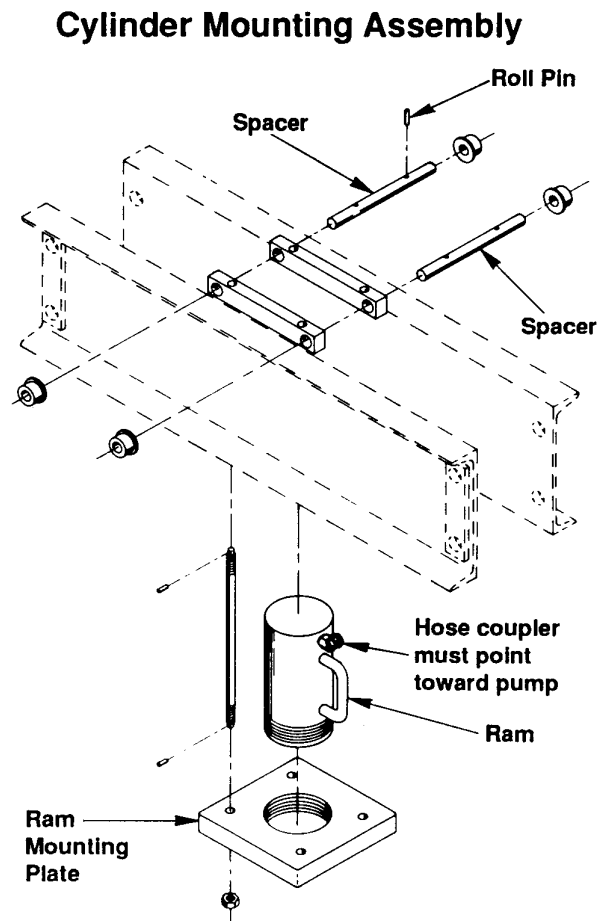

FIGURE 3
- B. See Figure 3. Remove the four roll pins and spacers that connect the ram mounting plate to the threaded rods of the cylinder mounting assembly. Remove the mounting plate.